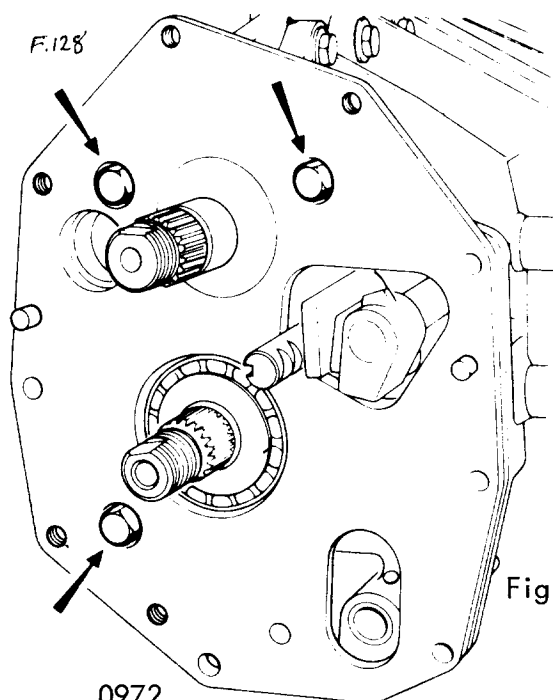

Fig. 66.
14. Remove bolts retaining spacer plate (arrowed in Fig. 66), and pull off plate.